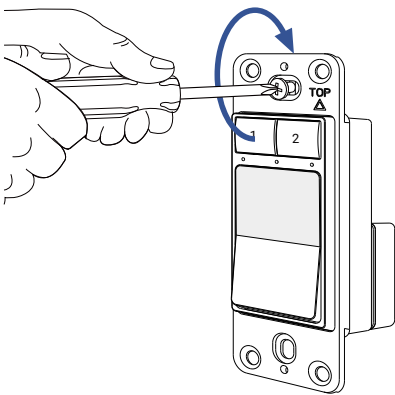

Figure 2A
- 3.** Gently push the wiring and the switch into the electrical box, then secure the switch to the box using the included or existing screws (if more suitable for the box), as shown in Figure 2A.